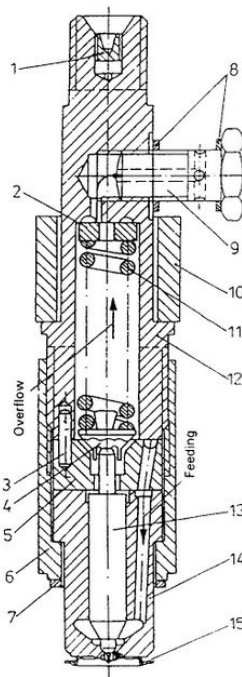

Fig. 47. Injector section
- During a pressure adjustment use at least two adjusting washers (5, Fig. 47);